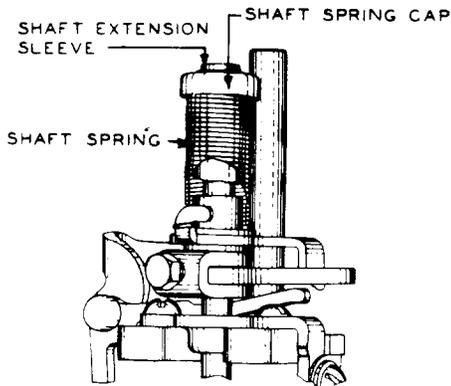

Fig. 33—Helical-Type Shaft Spring
(1) To change the tension of the shaft spring (Fig. 33), turn the shaft spring cap in a clockwise direction as far as the bayonet slots in the shaft extension sleeve will permit; then lift the cap so the crossbar is free of the slot in the sleeve. Turn the cap in a clockwise direction to increase the tension and in a counterclockwise direction to decrease the tension. After each one-quarter turn, the crossbar in the spring cap may be dropped into the slots in the shaft extension sleeve to maintain the spring tension while a new hold is secured for any further increase or decrease in tension that may be required. When finally adjusted, make sure that the crossbar in the spring cap is engaged in the slots to lock the spring in the adjusted position. Check the tension as described in requirement 3.17(a).
(2) If the shaft spring bracket does not restore properly against the normal pin clamp, proceed as follows. Free the shaft spring cap, as described in (1), and remove the spring and spring cap as a unit. See that the shaft spring bracket
rides smoothly on the normal post and that these parts are properly lubricated. If the shaft spring bracket rides smoothly, gradually elongate the shaft spring, taking care that the spring is elongated evenly with even spaces between the loops and that the overall height of the coil and cap does not exceed 2 inches. To stretch the spring, hold the cap in one hand and grasp the first loop at the other end of the spring with the B long-nose pliers. Remount the shaft spring and check requirements 3.16 and 3.17. Repeat the operation if necessary. (See Fig. 33.)